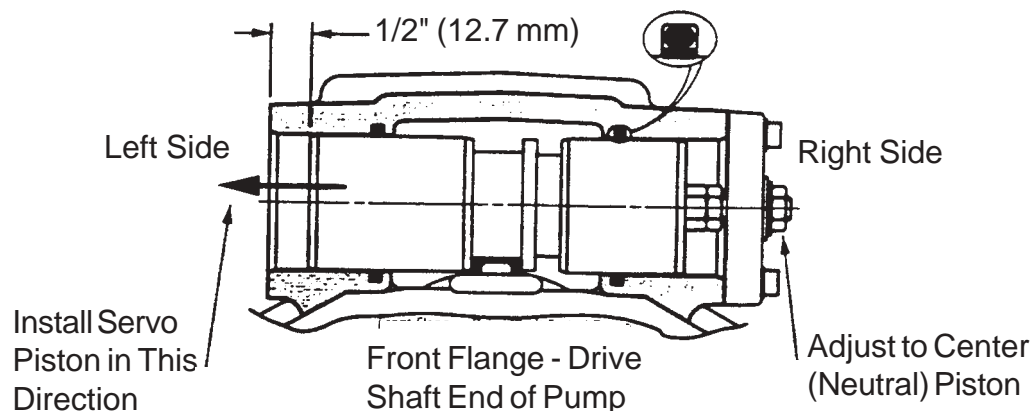

FIGURE 29
4. **Screw the Cover Plate onto the Servo Piston Assembly**, Install new Cover Plate Gasket in place on Housing. Install Servo Piston Assembly and Cover Plate into Servo Piston bore in right side of housing (as shown in Figure 29). Retain Cover Plate with four each Washers and Bolts, Torque these Bolts to 40 to 48 in. lbs. (4.5 to 5.4 nm).
5. **Servo Piston Neutral Adjustment**, Centering the Servo Piston Assembly is required. Measure in from the left side and set Servo Piston .5" (12.7 mm) from the surface of Housing Servo Bore as shown in Figure 29. (Final adjustment may be require after Pump is installed and operating to obtain Neutral). Special Note: if Unit is equipped with Buzz Bar Head it will have a Neutral (Centering) Adjustment on one side of Servo Piston and piston travel limiting Screw on the other side.
6. **Install New Seal Washer**, Washer and Jam Nut to Servo Piston Bolt (Only do this after Centering of Servo Piston has been done). Holding Servo Piston Bolt with Hex Key Wrench Torque Jam Nut to 150 to 160 in. lbs. (17 to 18 nm). Recheck Servo Piston Measurements (See Figure 29) If Measurement is OK install Cover Plate and Cover Plate Gasket on Left Side of Servo Piston, Retain cover with 4 each of # 10-24 Bolts, Torque these Bolts to 40 to 48 in. lbs. (4.5 to 5.4 nm). Note: If on Buzz Bar Head units there is Flow Limiter Bolt and Nut added in LH side cover plate, this looks like the Adjusting Centering Bolt on RH Side. This adjusting bolt on the LH side cover is only to limit the Flow to the Buss Bar Head. The Left Hand side cover is added as Servo Piston Travel Limiting Adjusting Bolt.